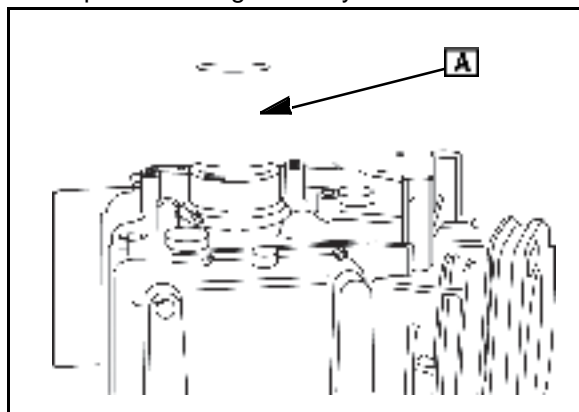

Fig. 29
2. Using cylinder support tool (#19351) and bearing driver tool (#19350) ([A] Fig. 29), press bearing out of cylinder.